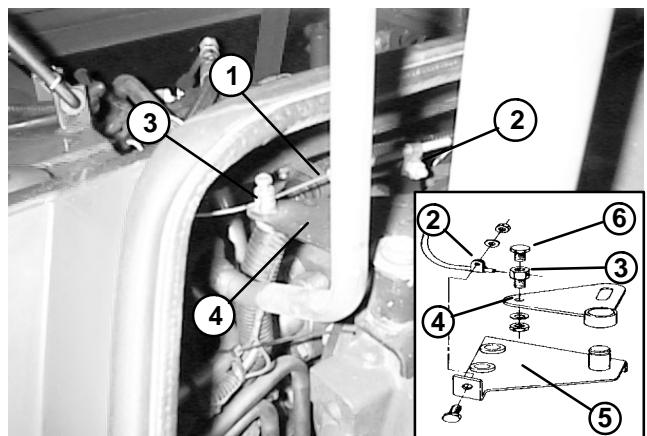

Figure 24
11. Disconnect throttle control cable from the swivel lever and R-clamp from the engine plate (Fig. 24).
6. Connect throttle control cable to the swivel lever. Secure cable to engine plate with R–clamp (Fig. 24).
17. Adjust control cable throttle cable (Fig. 24).